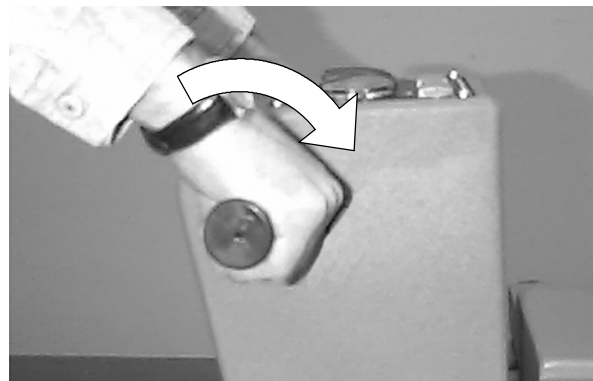

FIG. 10
2. Twist control grips forward to lower pad to floor and to start pad motor (Figure 10).